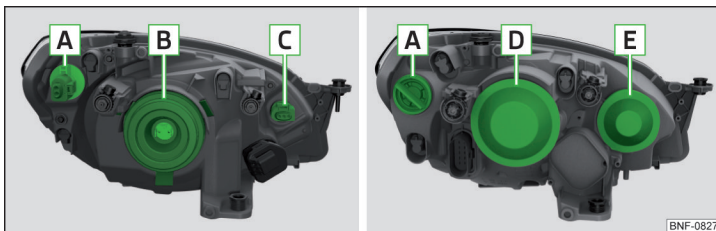
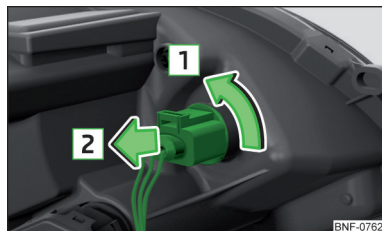

Fig. 171 Headlights: Version 1/version 2
Fig. 173
Bulb arrangement » Fig. 171
- › Turn the housing containing the bulb **C** » Fig. 171 on page 137 as far as the stop in the direction of the arrow **1** » Fig. 173.
- › Remove the protective caps **D** and **E** » Fig. 171 on page 137.
- › Use the protective caps **D** and **E** » Fig. 171 on page 137.